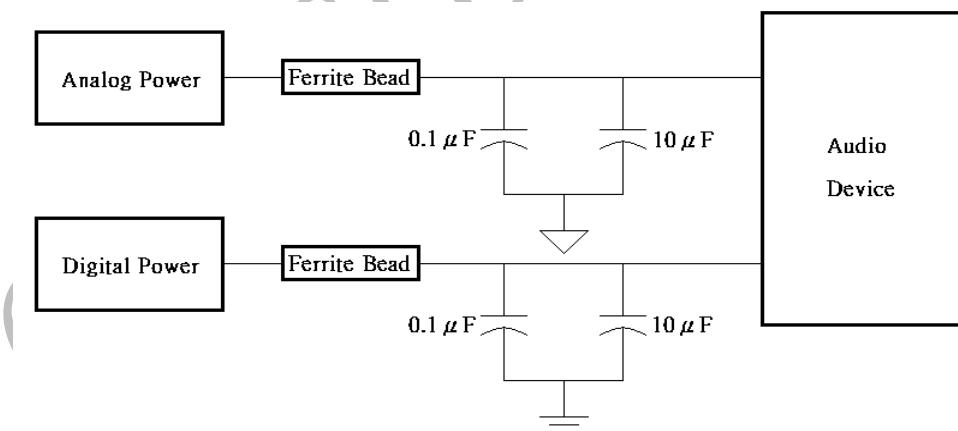

Fig.3 Capacitors Array
8. Consider achieving proper ESD/EMI performance; use a  $0.1\mu\text{F}$  capacitor on each cable PWR bus line to chassis GND close to the USB connector pin. If voltage regulators are used, place a  $0.1\mu\text{F}$  capacitor on both input and output as Figure 3. This is to increase the immunity to ESD and reduce EMI.